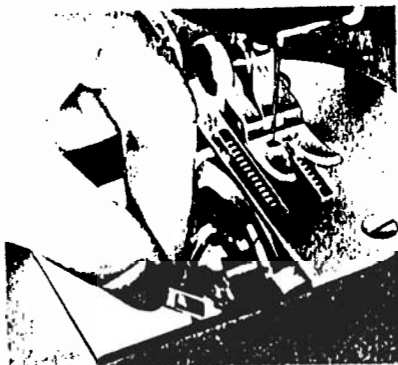

Fig. 6
Turn the balance wheel toward you until the needle is at its highest position. Pull out the slide plate and reach into the opening with your left hand, and with thumb and forefinger, open the latch and remove the bobbin case, as shown in Fig. 6. If you release the latch and turn the bobbin case downward, the bobbin will drop out (see Fig. 7A).
2. Remove the bobbin case and bobbin (see Fig. 6, Page 8).